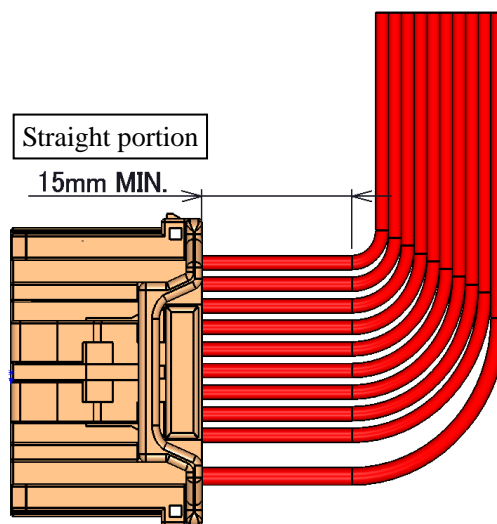

Fig 42. Arrangement of wires
- ① When arranging the wires horizontally, to avoid excessive stress to the sidewalls and female terminals, and the female terminal leaning in the core hole, please keep the wires straight (at least 15mm) from connector as shown in Fig42.
- ② Once straight portion is secured, arrange the wires with adequately large R.